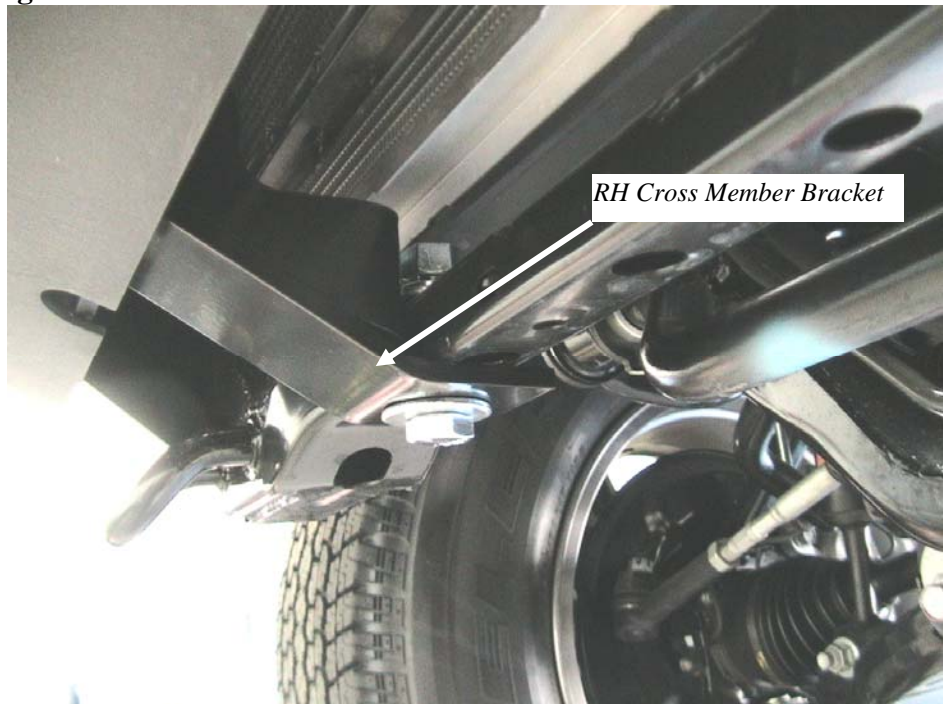

Figure 17 RH Cross Member bracket installed
19. Hold the RH Cross Member Bracket in place against the cross member and insert a 1/2 x 2 1/4" bolt and flat washer through the Bracket and cross member. Install a 1/2" flat washer, lock washer and nut. Do not tighten yet. **Figure 17**